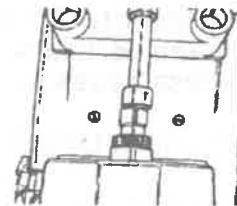
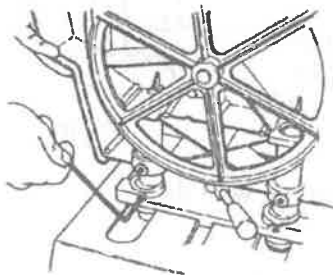
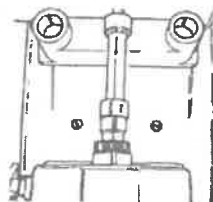
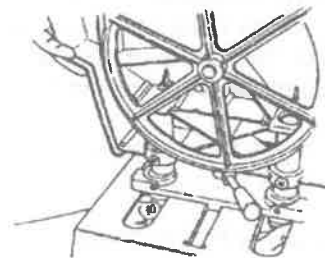

Fig.B-5
Fig.B-8
Fig.B-7
Fig.B-6
9. Typical misalignment is shown in Fig.B-5. To align the Bandsaw horizontally (whether there are one or two persons—see above note), reach under the Power Station base and twist both eccentric tubes, shown in Fig.B-6, until the coupler is horizontally aligned with the drive shaft hub. After the Bandsaw is horizontally aligned as in Fig.B-7, tighten the carriage setscrews (22). See Fig.B-8.